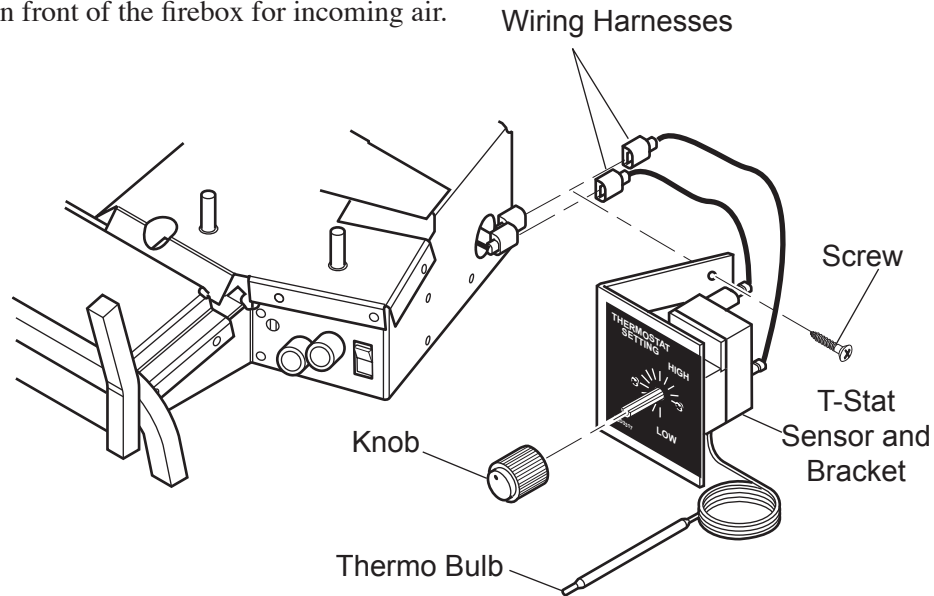

Figure 22 - Installing T-Stat Sensor to HVFL Base with Screw Provided
5. Route wiring harnesses through large hole on side of unit. Mount bracket to side of unit with screw provided. See *Figure 22*.
6. Attach wiring harness to either TP/TH and TH on control valve or to existing wiring harness with two (2) 0.250" male spade terminals for remote or t-stat option. See *Figures 22 and 23*.
7. Install knob to shaft of t-stat sensor. See *Figure 22*.